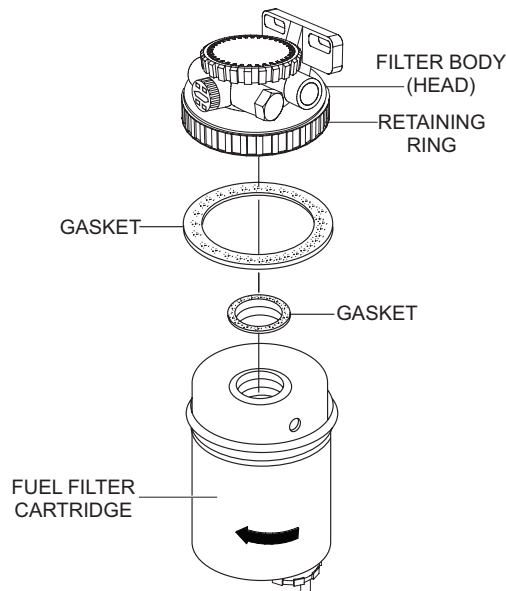

**Figure 61. Fuel Filter Draining**
1. Loosen the air bleeder plug (Figure 61) on the fuel filter body.